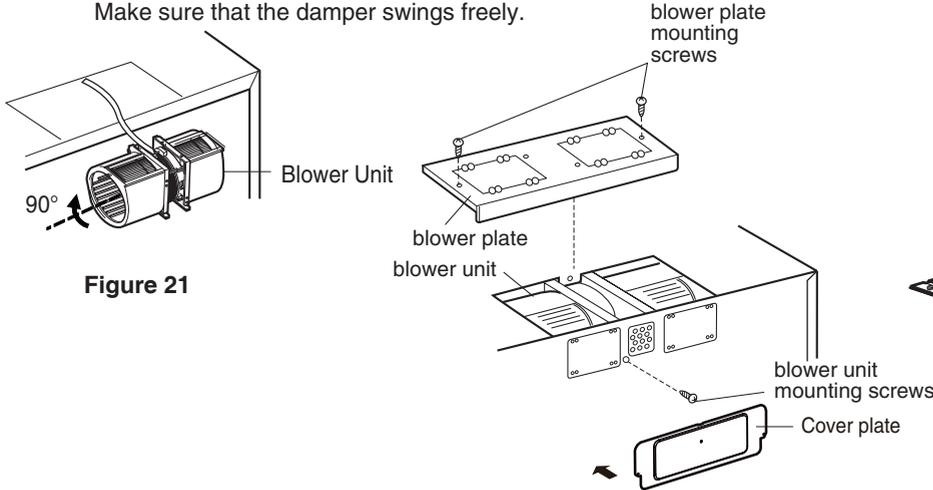

Figure 23
6. Reattach the cover plate on the back. Reattach blower plate to microwave oven. Attach with the one blower unit mounting screw and then the one or several blower plate mounting screw(s). See Figure 23.